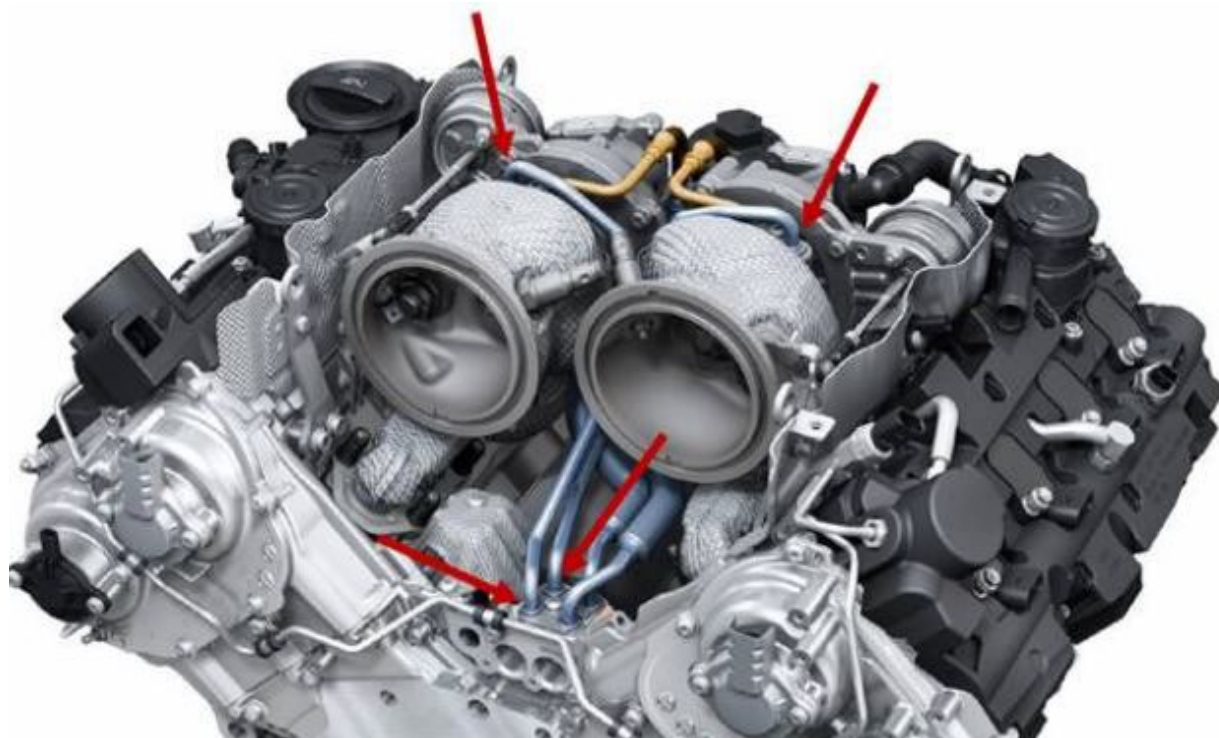

Figure 3: Location of the O-rings.
- **Please remove and install the coolant return line according to workshop manual (ELSA) and also replace O-rings on the coolant at the crankcase side (Figure 3).**